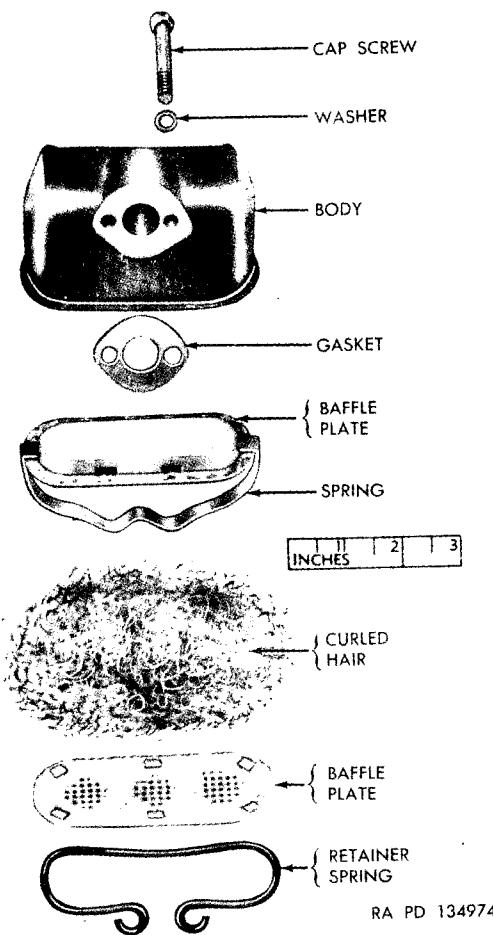
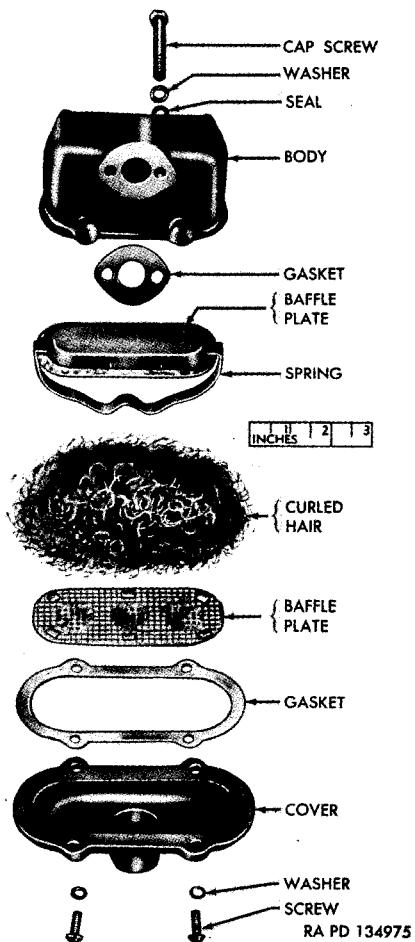

Figure 53. Standard air strainer—exploded view.
Figure 54. Waterproof air strainer—exploded view.
a. General. Every compressor is equipped with an air strainer to prevent suspended dirt and dust from entering the compressor. The standard air strainer (fig. 53) is used on vehicles not intended for deep fording. A waterproof strainer (fig. 54) is used when vehicle is adapted for deep fording. Both strainers are similar in construction.
- (1) To disassemble standard air strainer, pry out retainer spring from recess in body, holding hand over outer baffle to prevent inner parts from scattering, and remove all parts, as shown in figure 53.
(2) To disassemble waterproof strainer, remove screws holding cover to body and remove all parts, as shown in figure 54.
d. *Assembly.* The internal parts of both standard and waterproof strainers are the same. Place baffle plate in body, with screen toward open side of body (figs. 53 and 54). Set spring on baffle plate and curled hair on spring (figs. 53 and 54). Place baffle plate, with screen side against the curled hair, and secure. Force the retainer spring (fig. 53) into recess in body to secure standard strainer. To secure waterproof strainer, place new gasket on body and install cover (fig. 54) with screws and washers.